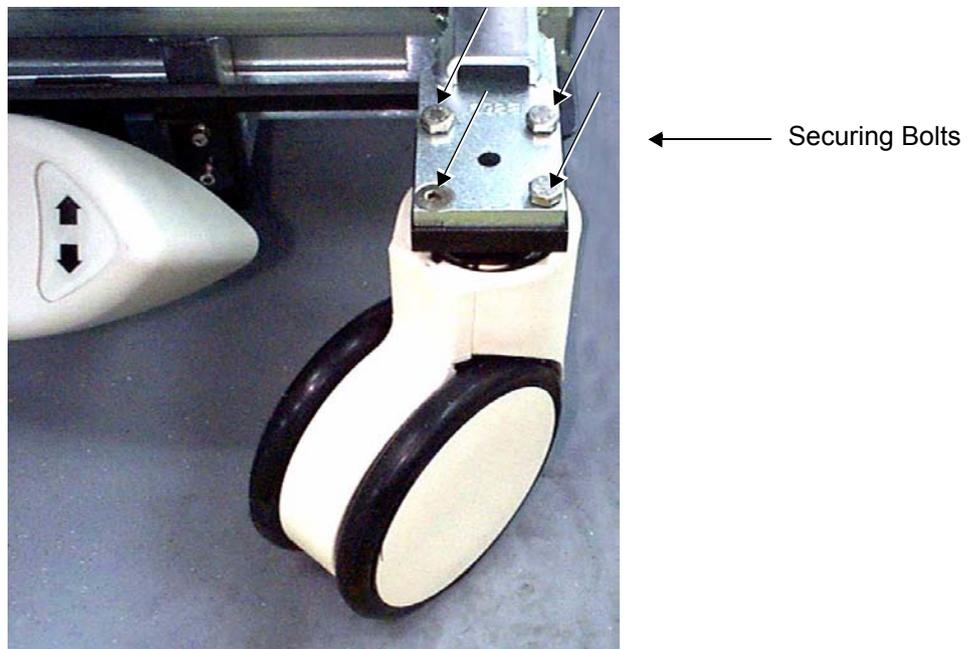

Figure 8-95 Front Wheel (Part No 2269437) Bolted to Chassis
- 3.) Return the four bolts (three wrench bolts and one Allen bolt - removed in step 3 on page 8-107) and make sure that wheel is secured firmly to the chassis (see Figure 8-95 on page 8-107).